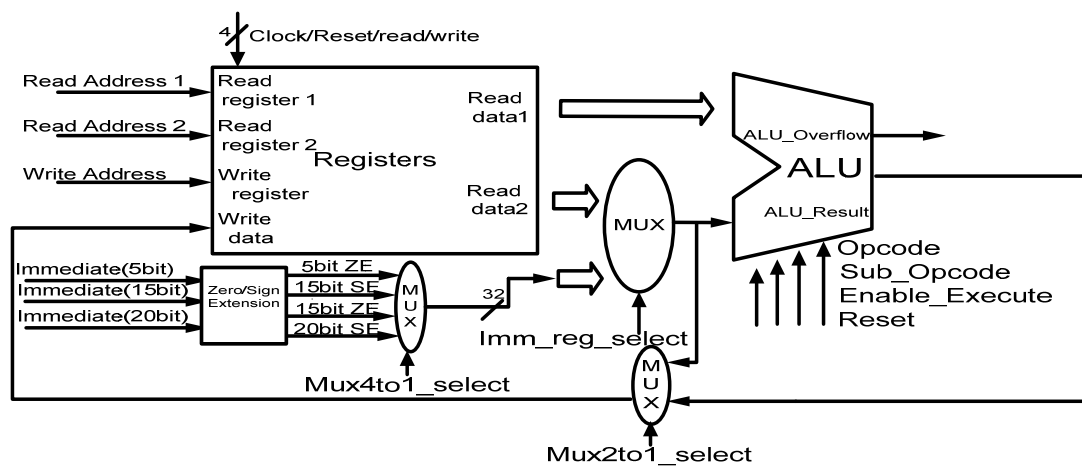

Fig. 4 ALU + Register File
3. (30/100) Write and verify an ALU which is from exercise 2 in part I combined with a register file as shown in Fig. 4. The 32-bit register file contains 32 registers. This register is shown in Fig. 5 consists of two Read ports and two data output ports (for source register and destination register) and one Write Address Port and one Write Data Port. It shall have the following functions: